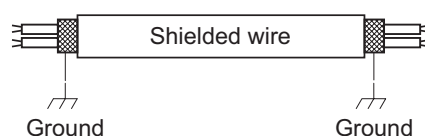

Fig. 2-5
- (5) Use shielded wires for inter-unit control wiring (C) and ground the shield on both sides, otherwise misoperation from noise may occur. (Fig. 2-5)